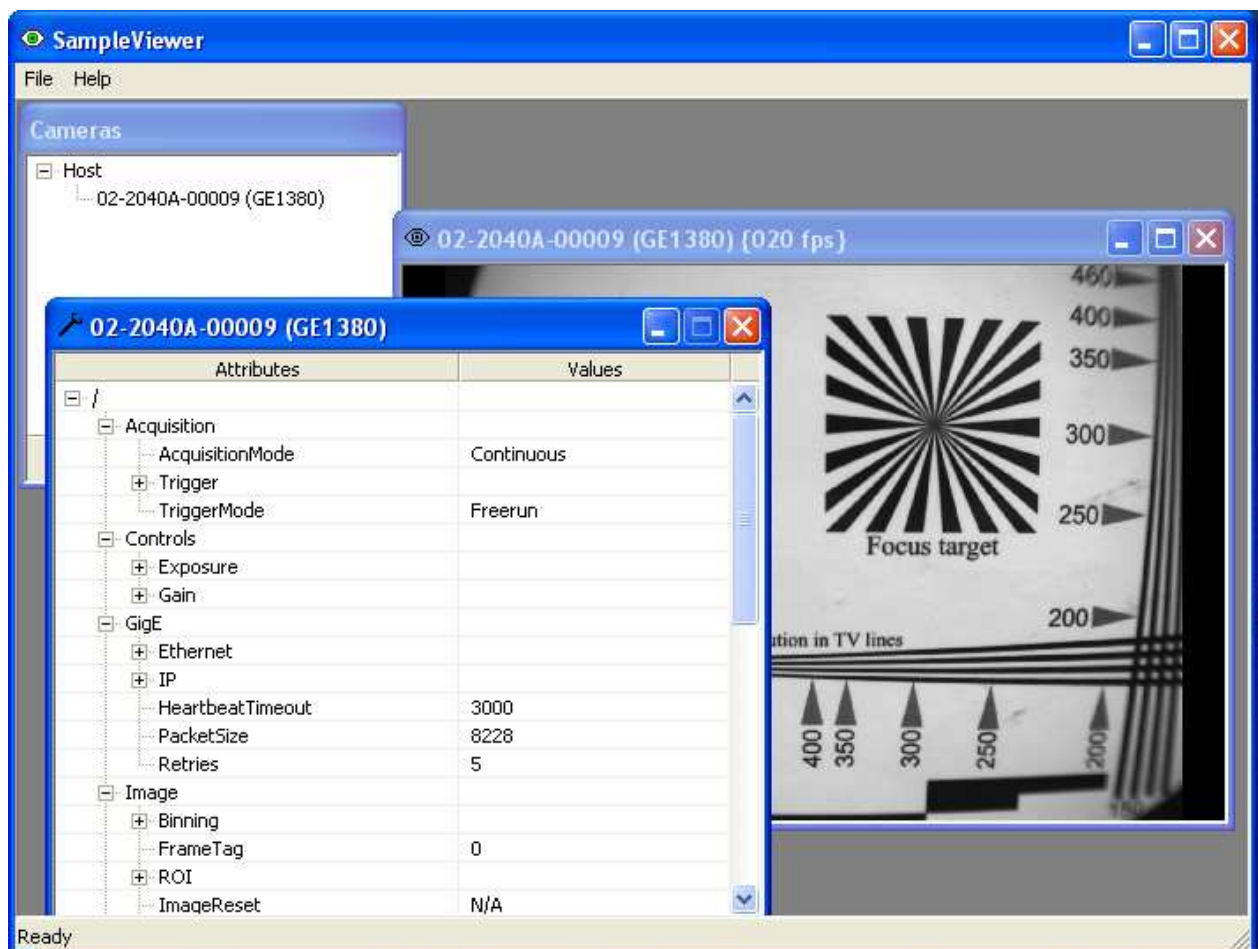

Figure 8. GigE Viewer application window.
- o See Figure 8. Select the **wrench** icon to change camera settings. Change the PacketSize to a value of 1500. Select the **eye** icon to image. The camera should now be imaging. If the camera is not imaging, see the Trouble Shooting section of this document. Note that the PacketSize can be set to 8228 if the network card has been optimized to support jumbo frames.